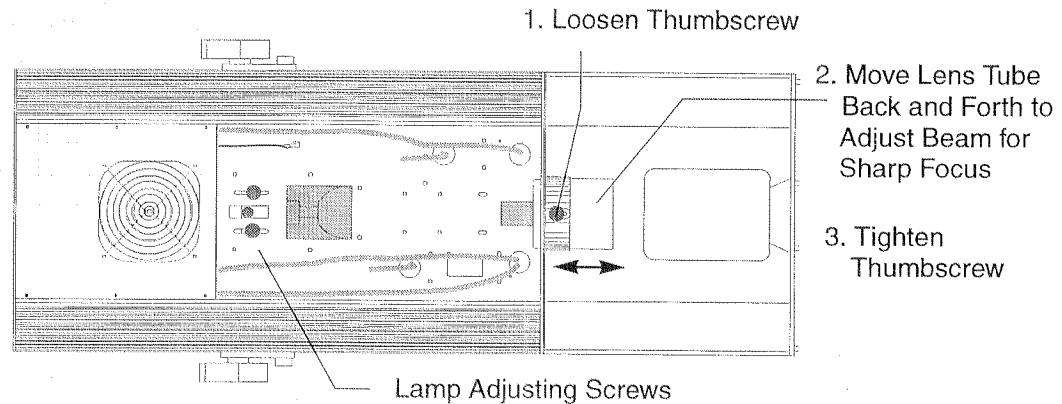

Figure 2.15. Focusing the Lens Tube
6. Loosen the lens adjustment thumbscrew that holds the lens tube in place at the front of the fixture. Refer to Figure 2.15.
7. Then, adjust the lens focus by moving the lens tube back and forth to achieve a sharp beam focus on the illuminated surface. Tighten the lens adjustment screw. Refer to Figure 2.15. You will readjust the lens tube whenever you move the fixture from one location to another.
8. Next, locate the three lamp adjusting screws on the bottom of the fixture. These are the three screws that you previously loosened and moved to install the lamp. Refer to Figures 2.15 and 2.16.